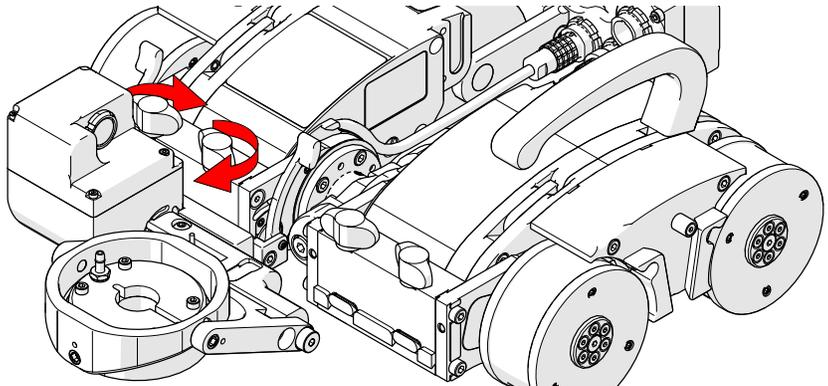

Fig. 18 - Tighten black wing knobs
7. Tighten the two black wing knobs to affix the actuated probe lift to the crawler (Fig. 18).